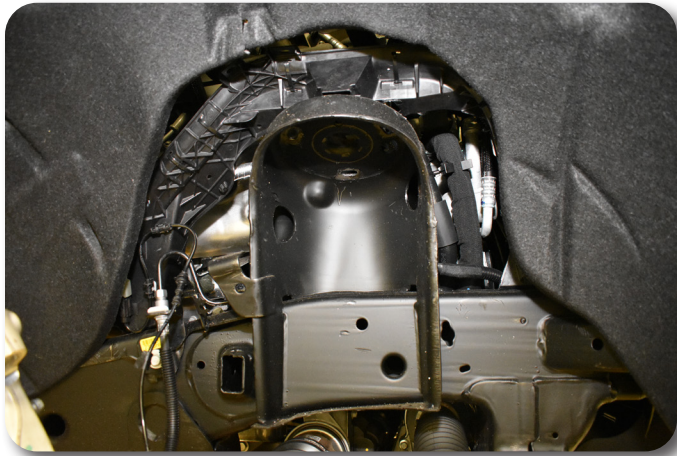

Figure 35
54. Remove the stock upper control arm from the vehicle by removing the two bolts attaching the upper control arm to the strut bucket / frame **Fig. 35**. Save hardware. If replacing the upper arm on a Denali truck, remove the sensor arm from the ball stud on the upper control arm.